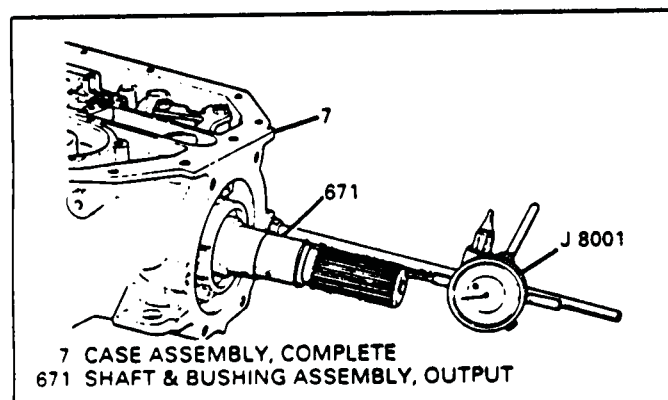

Figure 110
1. Mount a dial indicator, locating on the output shaft, as shown in Figure 110.